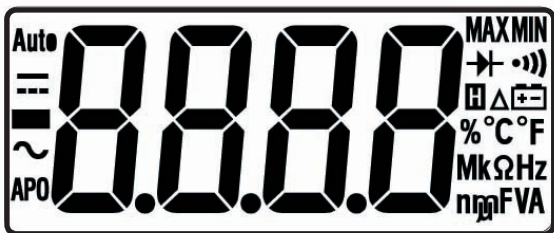

FIGURE 2
- 9) **Display** – The LCD display provides the measurement indication and other instrument status. See Figure 2 for a more detailed view.
Refer to Figure 2 to identify the various display annunciators.